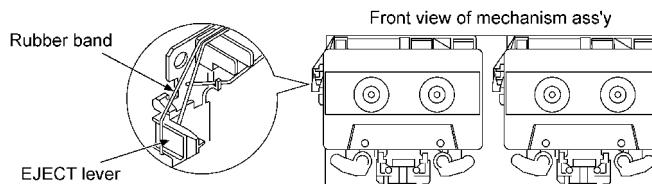

Fig. 2
- Push up the EJECT lever with rubber band. (Refer to Fig. 2)